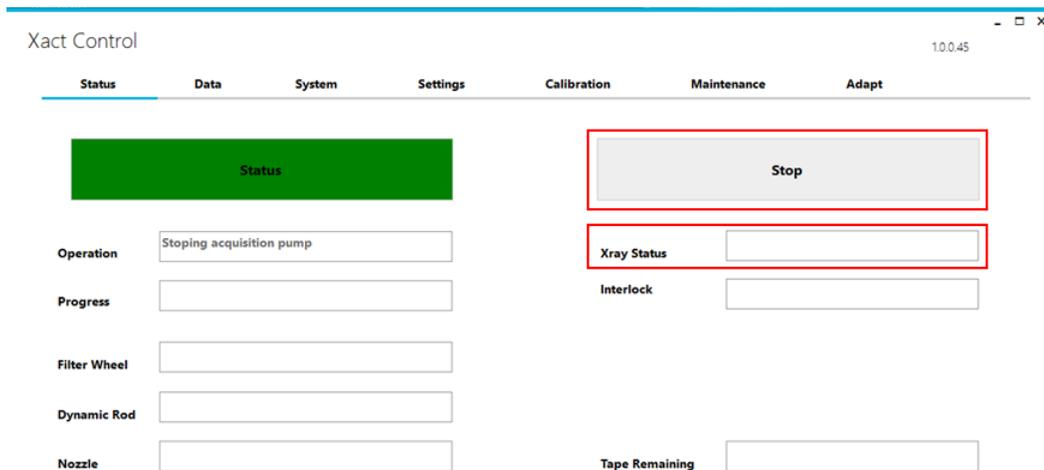

Figure 11.1 “Stop” button to place Xact 625i in Stop mode.
- a. On the Xact Control home screen (Xact Control >> Status), click on the “Stop” button to place the instrument in Stop mode (**Figure 11.1**). Wait for the ‘Xray Status’ message bar to indicate that X-ray is ramping down. The red X-ray light on the front door will no longer be illuminated when ramp down is completed.